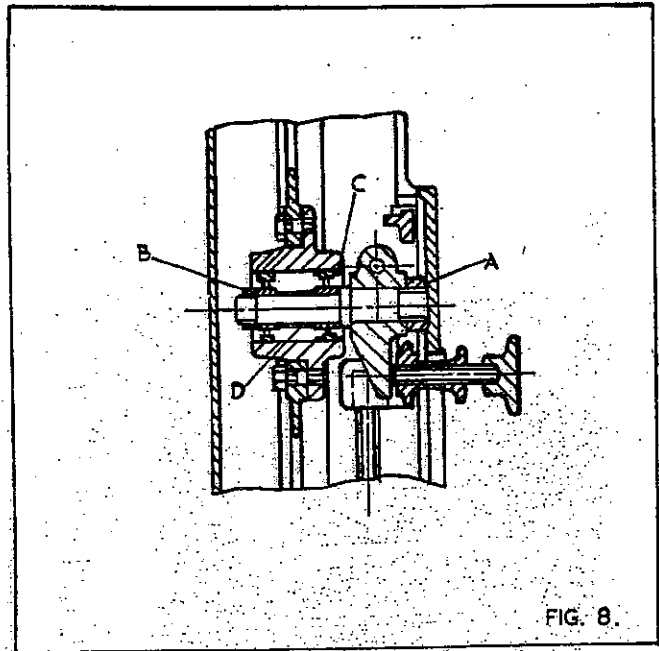

FIG. 8.
2. Unscrew locknut "A", in fig. 8, and remove the complete top wheel hub assembly and transfer to a bench.